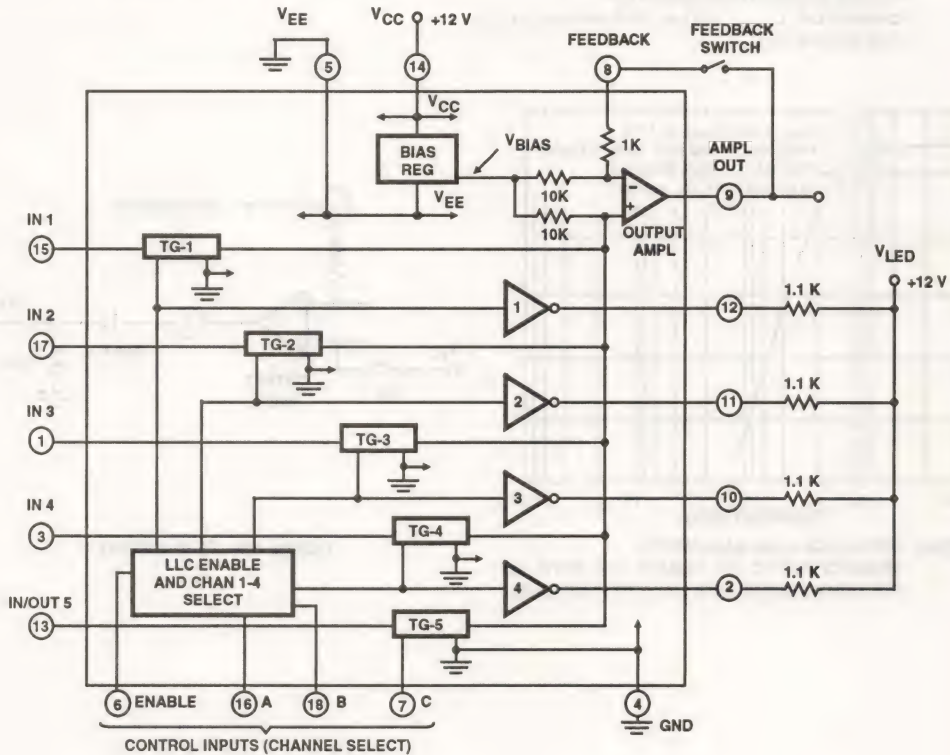

FIGURE 3. CA3256 TEST CIRCUIT (DIP PINOUT)
**Electrical Specifications**  $T_A = +25^{\circ}\text{C}$ ,  $V_{CC} = +12$ ,  $V_{LED} = +12$ ,  $V_{EE} = \text{GND}$ , Pin 4 = GND, Feedback Switch Closed,  $V_{HIGH} = 9\text{V}$ ,  $V_{LOW} = 3\text{V}$  (See Figure 3), Unless Otherwise Specified.